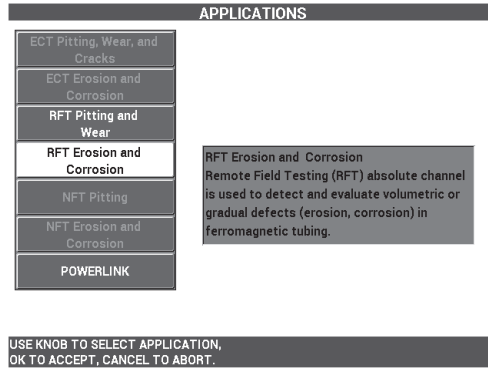

Figure 5-212 The RFT Erosion and Corrosion application
2. Select **CONTINUE** (press the A key), and then use the knob to select **RFT Erosion and Corrosion**, and press ✓ to accept (see Figure 5-212 on page 279).